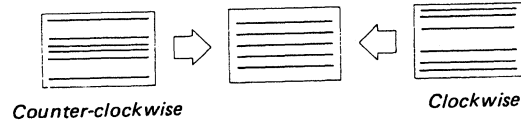

Fig. 31-3
4. Adjust the gain of V lineality with V.L.G (RV8) on the D board as shown in Fig 31-3.